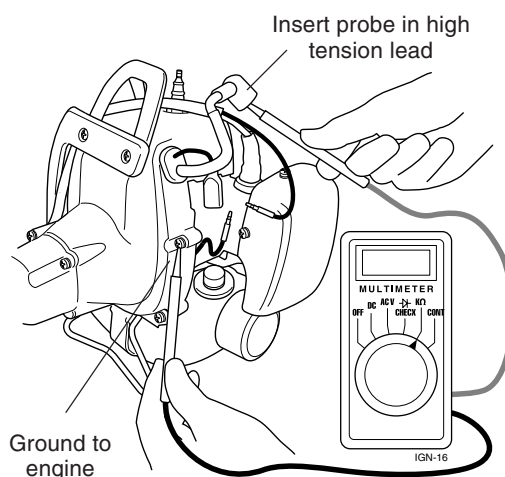

Figure 5.15 Testing the secondary
- Test secondary coil resistance and compare with new parts (Figure 5.15).